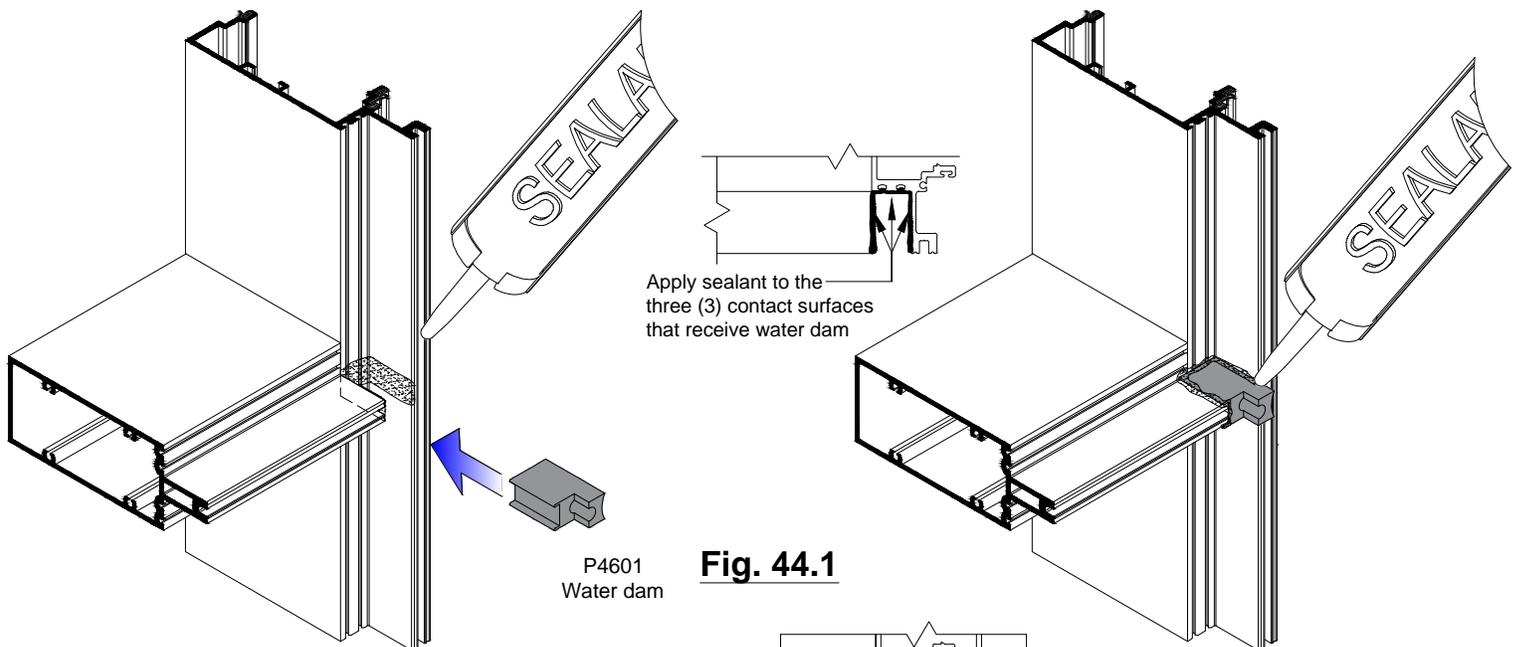

Fig. 44.1
- Pre-seal the cavity where the water dam is to be installed. Sealant should be applied liberally. See Fig. 44.1 and 44.2. When expansion horizontals are used, only the upper horizontal (sill of upper frame unit) will receive a water dam.
- A. For SSG applications, install the P4631 SSG spacer gasket into the mullion (vertical gasket runs beyond horizontal). See Fig. 44.1 and 46.1.